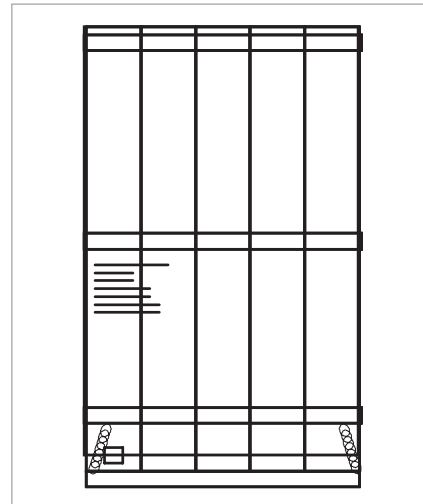

Fig. 7
- delivered in wooden crates with PE protective film (Fig. 7).
- In case of air transport, the panels are packaged in wooden crates with a protective PE film hood (dust protection) or in wooden crates, also with closed wooden bases, however without protective hoods (dust protection, Fig. 7).